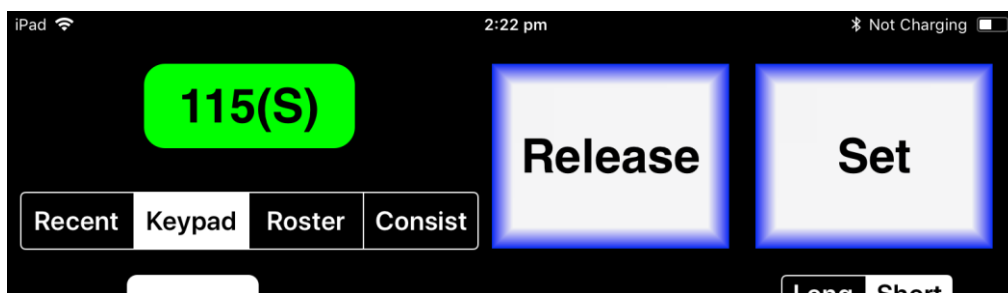

Figure 13 The loco is successfully selected
(11) The red button at the top left should turn green to show the loco is selected as Figure 13.